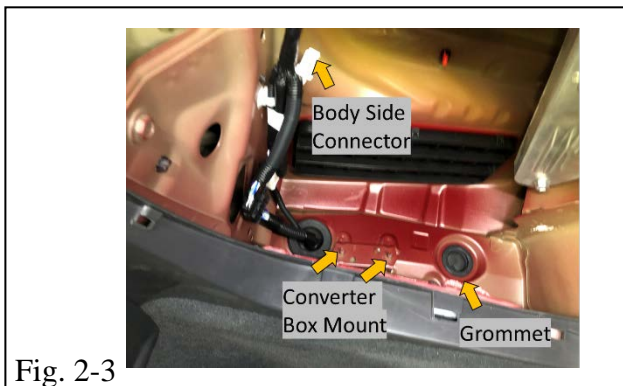

Fig. 2-3
- (c) Below where spare tire was located, remove grommet and remove tape from body side connector (Fig. 2-3).